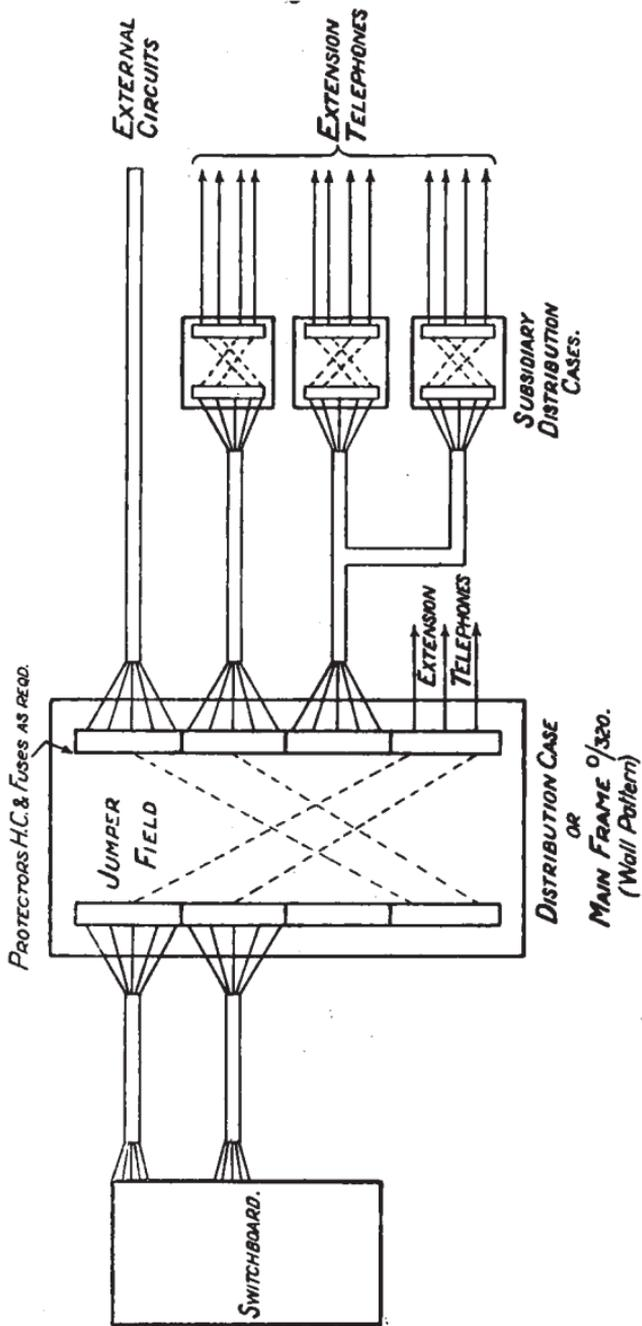

Fig. 2.
*Class 2.*- An example of a large private branch exchange with a main frame or distribution case and subsidiary distribution cases is shown in Fig. 2.